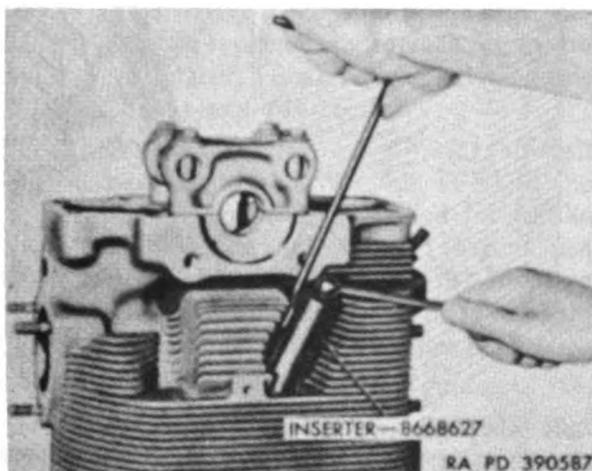

Figure 83. Installing spark plug Heli-coil threaded insert.
- (d) Thread new spark plug Heli-coil insert (QQ) into threaded guide of inserter 8668627 (fig. 83) by slowly turning pilot until insert is flush with end of tool.
- (e) Insert pilot of inserter in threaded hole in cylinder head casting, with face of inserter resting solidly against casting, as shown in figure 83.